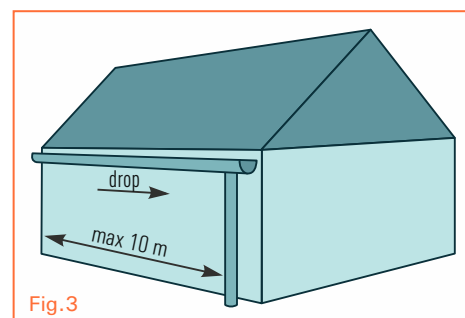

Fig.3
a. Roof slope up to 100 m² (Fig. 3) - mount a single drain taking into account the drop of 5mm / m (the length of the gutter with a single drain can not exceed 10 m).